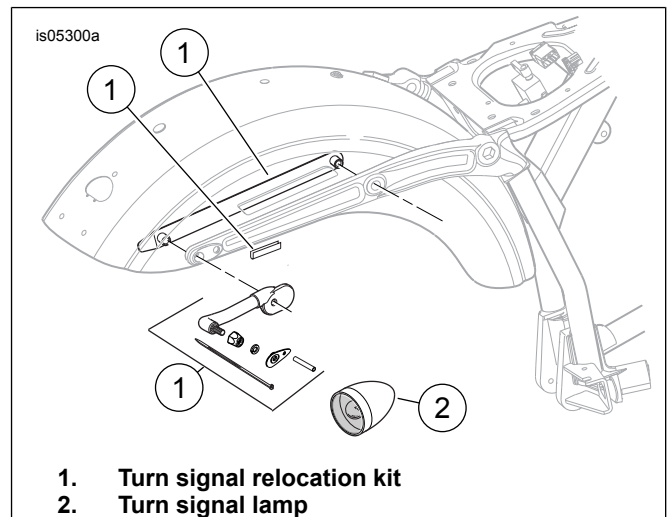

Figure 1. Turn Signal Relocation Kit, FXDB
3. **2009 and Later FXDB:** See Figure 1. Use the fender support bracket included in the Turn Signal Relocation Kit 68227-09.
2. See Figure 1. Measure approximately 1-1/2 inches (38 mm) from the bottom edge of the saddlebag. Orient the reflector horizontally and carefully center the reflector mount between the straps of bags with straps or locate it at the rearward portion of bags without straps. Gently press reflector mount to saddle bag so paint marks transfer and punch or drill small holes through saddlebag where paint marks transferred to saddlebag.